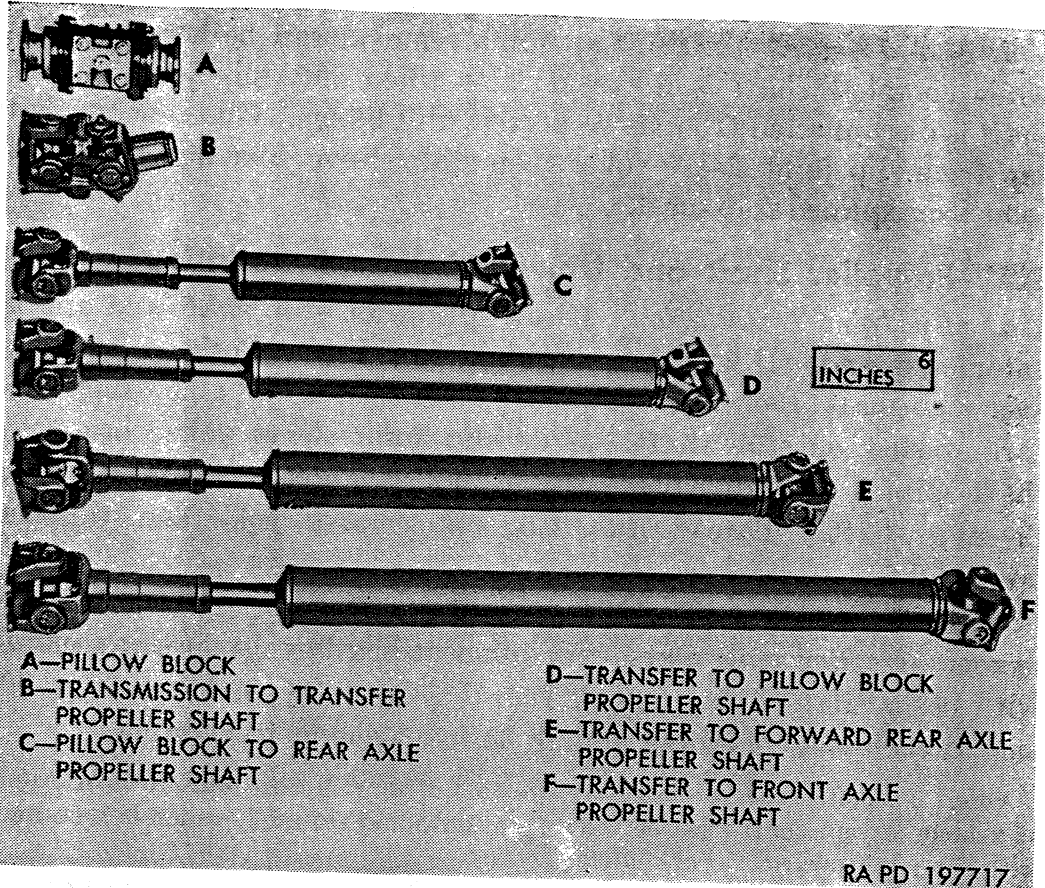

Figure 239. Pillow block and propeller shaft assemblies removed.
*b. Axle Propeller Shaft Removal.* Remove four bolts and nuts at each end of shaft attaching universal joint flange to drive or driven unit flange; then remove complete shaft assembly (C, D, E, or F, fig. 239).
*a. General.* The four axle propeller shaft assemblies (C, D, E, and F, fig. 239) are identical in construction except lengths of tubular shaft and stub shaft assemblies. Each shaft has a slip joint at one end to permit telescopic action of shaft during operation. One half of the slip joint is a splined solid stub shaft welded to tubular shaft. The slip joint sleeve yoke assembly (G) fits over the stub shaft splines, thus forming the slip joint. Universal joints should be repaired whenever excessive wear is indicated by looseness in bearing
- (1) *Cleaning.* Clean all parts thoroughly with dry-cleaning solvent or volatile mineral spirits. Upon installation, use new bearing gasket retainers (E) and bearing gaskets (D) on journal.
- (a) *Shaft assemblies.* The shaft assemblies with stub shaft and yoke are of different lengths (fig. 239), depending on location. Examine shaft assembly for bent condition. Each shaft is balanced and no attempt should be made to repair a shaft. If shaft is bent, or if yoke or splines are damaged, replace shaft.
- (b) *Universal joint flange yokes.* Inspect universal joint flange yokes (A) for damage. Replace yokes if damaged. Do not attempt to repair yokes.
- (c) *Slip joint sleeve yoke.* Thoroughly clean out interior of slip joint sleeve yoke assembly (G). Inspect yoke for dam-
*a. Description.* The propeller shaft assembly between transmission and transfer (B, fig. 239) consists of two universal joint assemblies bolted together to form a propeller shaft assembly. The sleeve yoke assembly (R) fits on splined output shaft of transmission to form a slip joint. The flange yoke (Q) bolts to a companion flange on transfer input shaft. Needle-type roller bearing assemblies are used at each universal joint. Universal joints should be repaired whenever excessive wear is indicated by looseness in bearings. A kit for repair of universal joints consists of one journal assembly, four bearing assemblies, four bearing caps (when used), two lubrication fittings, eight cap screws, and four lock straps; the journal assembly includes gaskets and retainers.